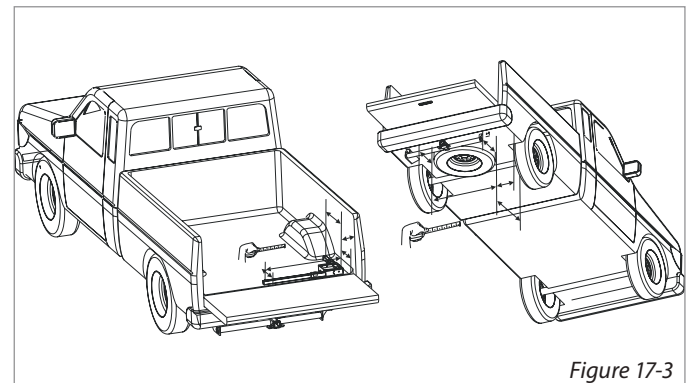

Figure 17-3
3. **Recommended practice before drilling.** Position the Base to the nearest the corner, leaving at least 1" of clearance on all sides of the base *[Figure 17-3]*. With the Base resting in place, use a tape measure to estimate the distance in both directions from an exterior point (EX. Outside body panel) to all potential bolt holes. Repeat this measure underneath the vehicle. *[Figure 17-3]*